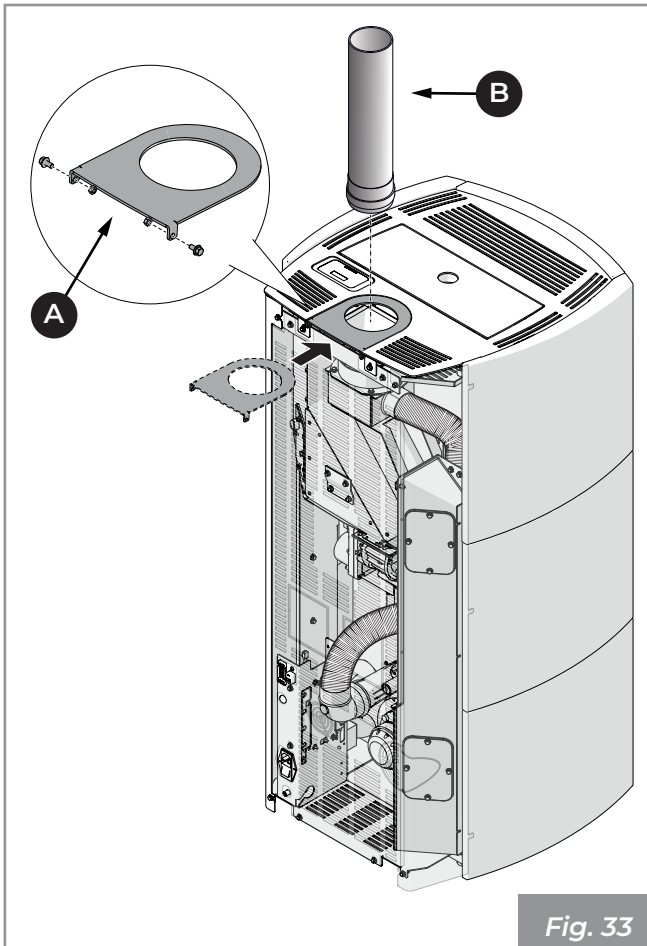

Fig. 33
- Connect the flue gas pipe **(B)** (**Fig. 33**)